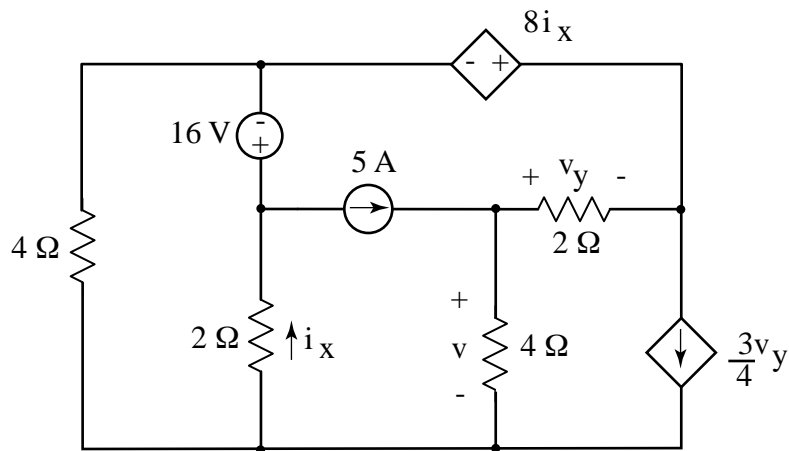

Figure 2
- Q.2 (a) Using Mesh analysis write by inspection a set of mesh matrix equations (size 2 x 2) in the form  $[\mathbf{A}][\mathbf{I}] = \mathbf{V}$  for the circuit shown in Figure 2. Your final answer should contains numbers only in the  $\mathbf{A}$  matrix and the  $\mathbf{V}$  column vector.
Q.1 Design a static CMOS inverter (see figure 2), using  $1\mu\text{m}$  long nMOS and pMOS transistors and of appropriate widths, so as to meet the following performance requirements: